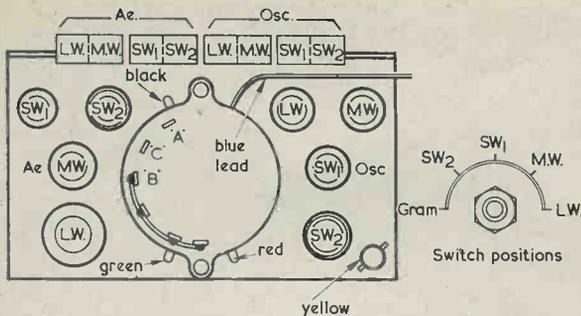

Fig. 10. The coilpack, as viewed from the rear. Also shown are switch positions as they appear on the front panel
Take up the coilpack and turn to Fig. 10. Solder a 2½in. length of insulated wire to the green coilpack tag, the free end being bared for connection later. Solder one end of R5 to the red tag of the coilpack, the lead being covered with Systoflex sleeving and allowing a spacing of about  $\frac{1}{2}$ in. between the tag and the resistor body. The free lead of the resistor is left uncut for the moment. These two connections are made at this stage because the tags concerned are difficult to reach after the coilpack has been mounted.
7. Some of the coilpack connections are now made. The coilpack layout is given in Fig. 10. Resistor R5 has already been connected to the red tag. Shortening as necessary, solder the free end of R5 to one lead of C13, connecting the other lead of C13 to pin 8 of V1.
(rear gang) and the blue lead from the coilpack (see Fig. 10). Solder this last connection.
36. Connect the wire from tag 1 of Tagstrip 2 to tag (a) of R13 (see Fig. 11). Connect the centre conductor of a suitable length of coaxial cable to tag A of the coilpack (see Fig. 10). Connect the centre